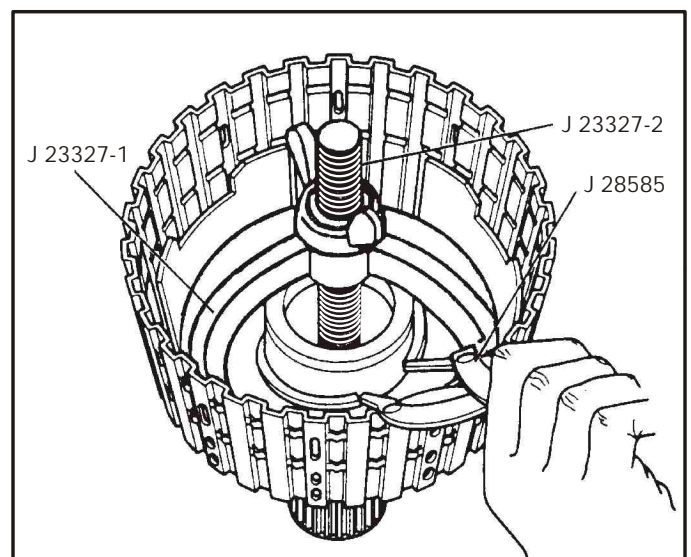

Figure 105
12. Compress the 3rd clutch piston housing, and remove the snap ring, as shown in Figure 105.
26. Compress the 3rd clutch housing and install the snap ring, as shown in Figure 105.